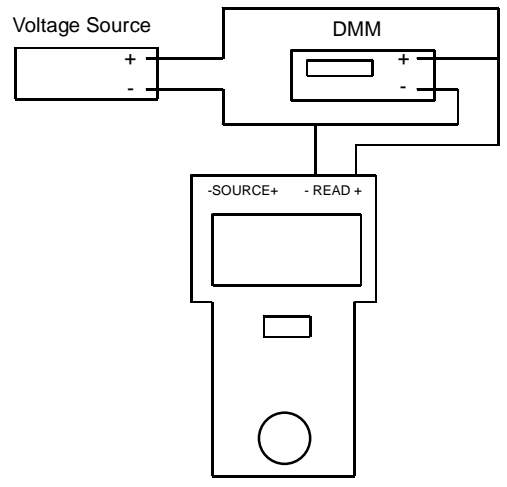

FIGURE 6
- 1) Connect the Read leads to a voltage source and place the DVM across the voltage source (See figure 6).
- 1) Leave the Read leads connected as in the mV calibration (See Figure 6).